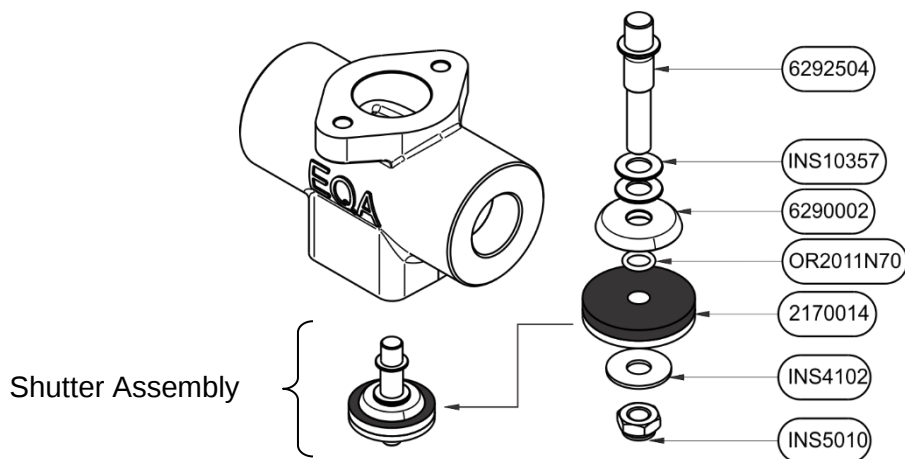

Fig. 8
4- Using an M8 socket wrench, remove the shutter assembly. (see Figure 8)
5- Check the condition of the shutter (2170014), if it is over-marked or you notice dirt embedded in the rubber, replace it with a new unit (see fig. 8).
- b. When re-assembling the sealing assembly (see fig. 8) with the valve, apply a low-torque threadlocker to the thread.